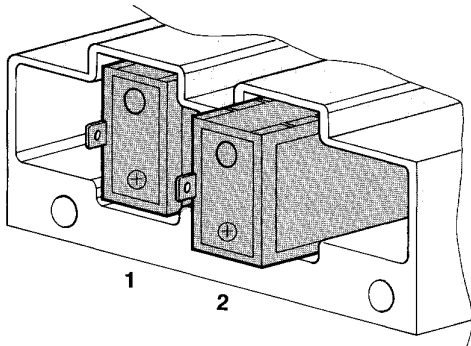

Fig. 1. The WTU-770 module inserted into the receptacle lengthwise.
3. Insert the tuner module into the lengthwise receptacle as shown in Fig. 1, taking care so that the module's top and bottom sides may not be reversed. (See Fig. 1.)